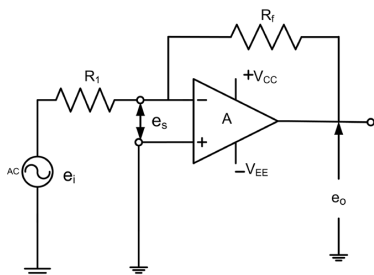

Fig. P23.1 Inverting Amplifier
4. Connect R_i and R_f as shown in Fig. P23.1.